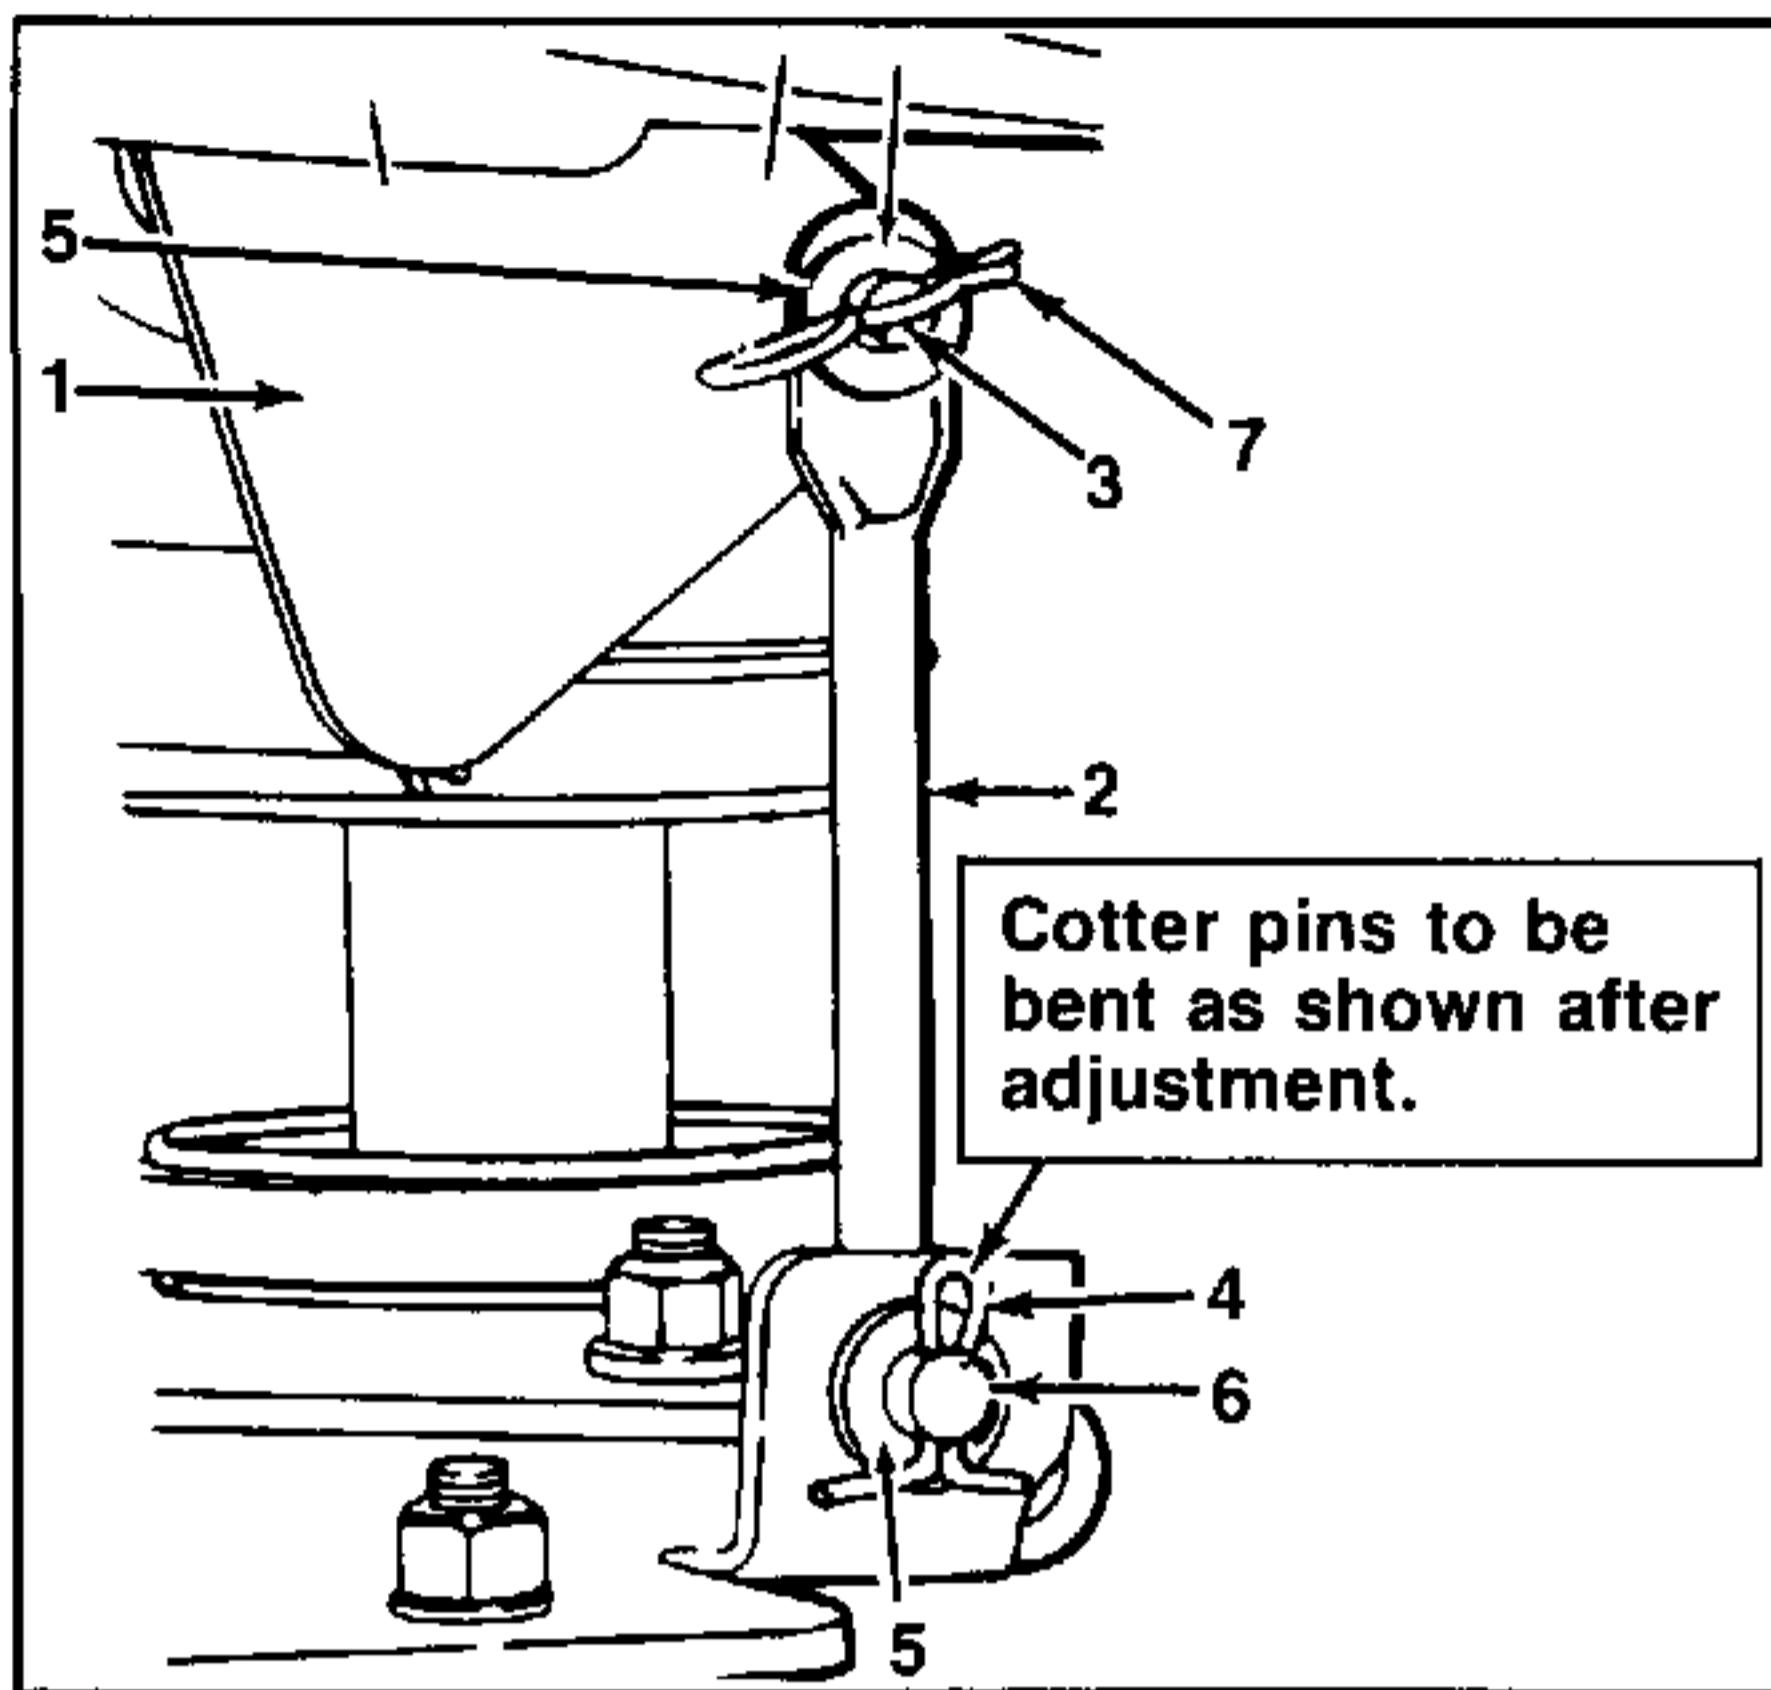

FIGURE 4.
3. Refer to figure 4. Note the relative position of the flat area at the top of the two rear lift links to the welded lift pins on the lift carriage. Remove the hairpin cotters and flat washers which attach the rear lift links to the lift pins. Remove the two rear lift links.